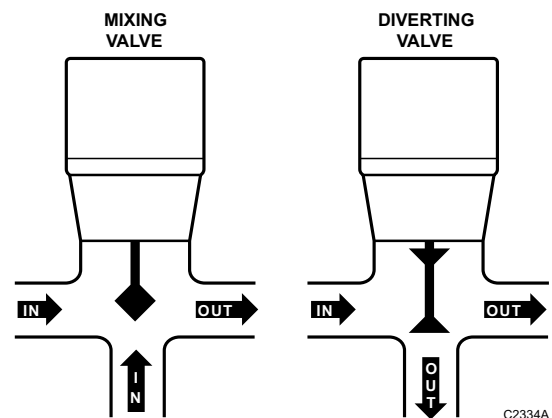
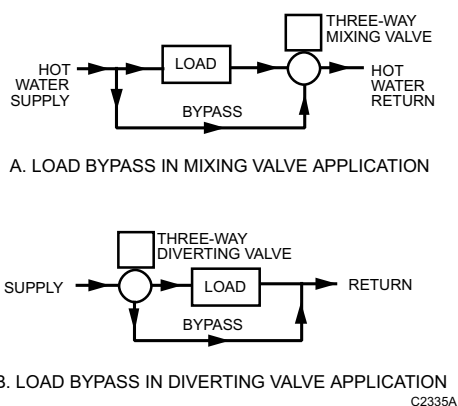

Fig. 12. Three-Way Valves.
Fig. 13. Three-Way Valve Applications.
Three-way valves (Fig. 12) control the flow of liquids in mixing or diverting valve applications (Fig. 13). The internal design of a three-way globe valve enables it to seat against the flow of liquid in the different applications. An arrow cast on the valve body indicates the proper direction of liquid flow. It is important to connect three-way valve piping correctly or oscillations, noise, and excessive valve wear can result. Three-way valves are typically have linear flow characteristics, although, some are equal percentage for flow through the coil with linear flow characteristics for flow through the coil bypass. Ball valves are also available in a three-way configuration, while two butterfly valves can be made to act as a three-way valve.
A mixing valve provides two inlet ports and one common outlet port. The valve receives liquids to be mixed from the inlet ports and discharges the liquid through the outlet port (Fig. 12). The position of the valve disc determines the mixing proportions of the liquids from the inlet ports.
A globe diverting valve provides one common inlet port and two outlet ports. The diverting valve uses two V-port plugs which seat in opposite directions and against the common inlet flow. The valve receives a liquid from one inlet port and discharges the liquids through the outlet ports (Fig. 12) depending on the position of the valve disc. If the valve disc is against the bottom seat (stem up), all the liquid discharges through the side outlet port. If the valve disc is against the top seat (stem down), all the liquid discharges through the bottom outlet port.
- a. In load bypass applications (Fig. 13) such as radiators, coils, and air conditioning units, the pressure drop should be 50 to 70 percent of the minimum difference between the supply and return main pressure at design operating conditions.
3. When selecting pressure drops for three-way mixing valves in boiler bypass applications (Fig. 13), consider the following: